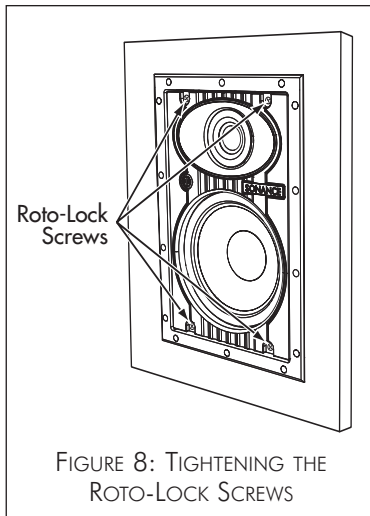

FIGURE 8: TIGHTENING THE ROTO-LOCK SCREWS
5. Tighten the four screws on the front of the speaker baffle. The RotoLock clamps will automatically rotate into position and begin clamping the speaker (*Figure 8*).